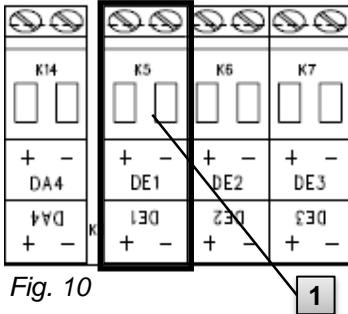

Fig. 10
1. Connect the pulse output of the gas meter to the "DE1" terminal (**1** in Fig. 10, page 36) of the EK280.
1. Connect the encoder of the gas meter to the "DE1" terminal (**1** in Fig. 10, page 36) of the EK280.
1. Connect the high frequency pulse output of the gas meter to the "DE1" terminal (**1** in Fig. 10, page 36) of the EK280.